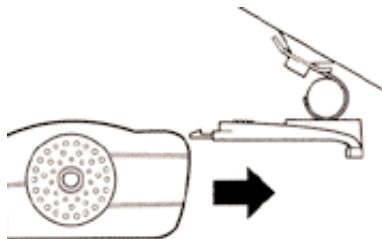

Figure 4
5. Slide the detector on to the base plate until it clicks into place. See figure 4.